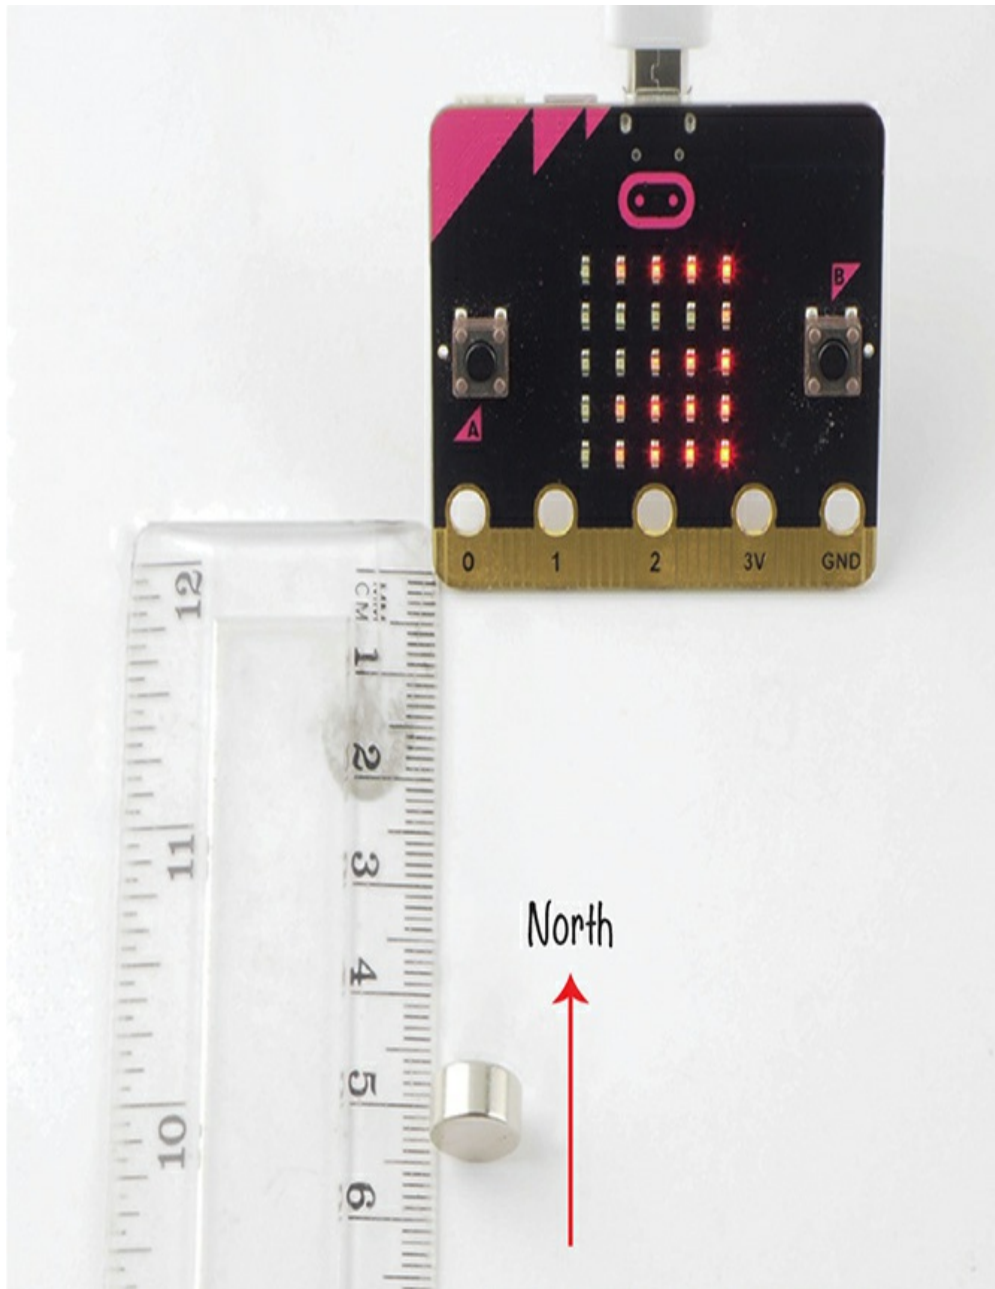

Figure 4-7: Place the ruler in the north–south direction to make sure your magnet continues to face north.
3. Align your ruler so the 0 cm mark is pointing north and the 30 cm mark is pointing south, as shown in Figure 4-7. The ruler allows you to make sure the magnet continues to face north so that the effect of Earth's magnetic field remains constant.